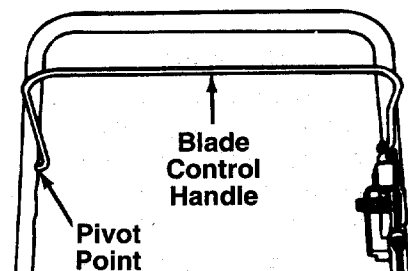

FIGURE 9.
**Blade Control**—Lubricate the pivot points on the blade control handle and the brake cable at least once a season with light oil. See figure 9. The blade control must operate freely in both directions.